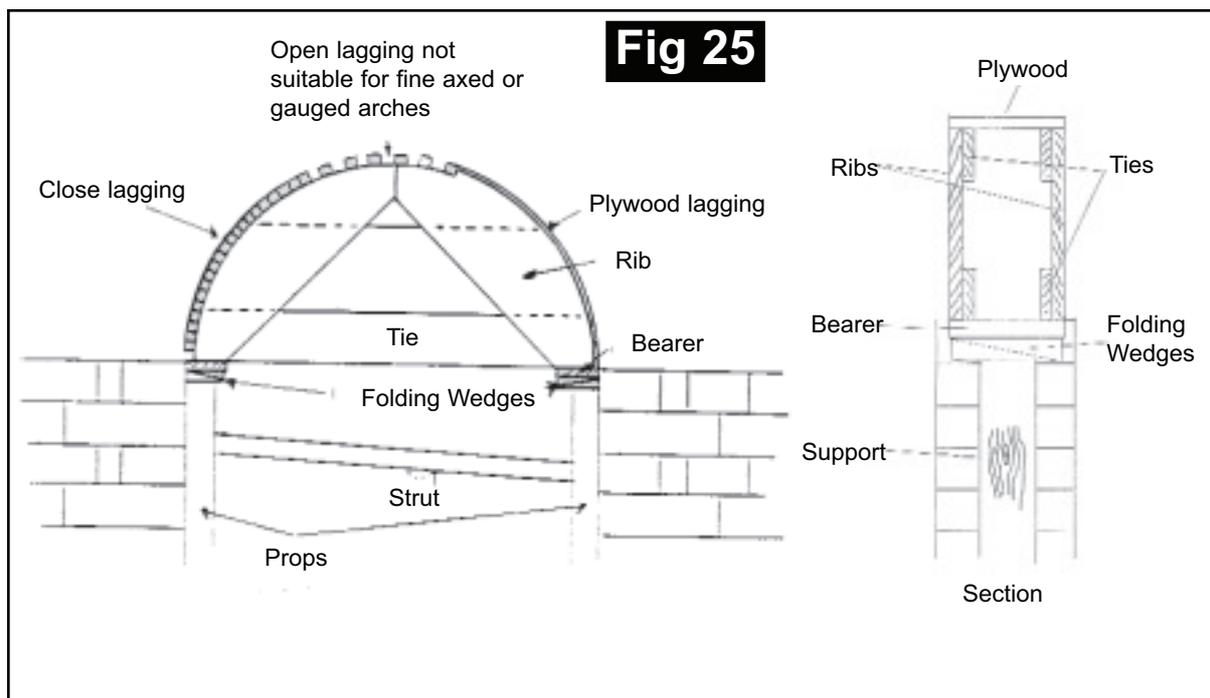

Fig 25
is being built. It can either have small - section timber members cut to the required shape close together or open, or when building an arch for a bridge you would use thin ply so you could easily form the curve. The advantage of using arch centres over turning pieces is the centre can be used over longer spans and for higher arches, *fig 25 (page 30)*.
78. See *fig 25* and section.